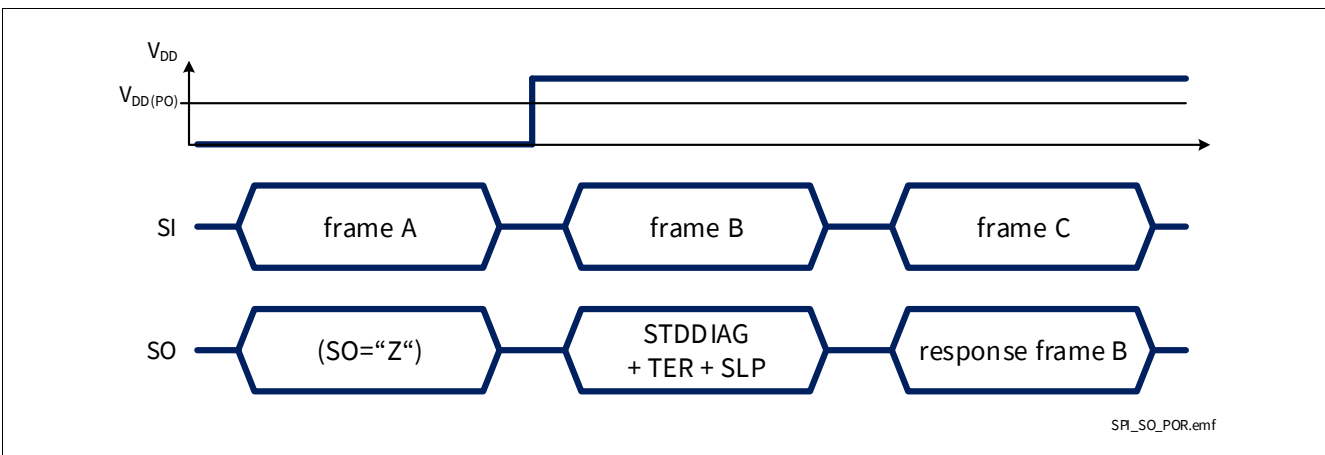

Figure 44 SPI response after coming out of Power-On reset at V_{DD}
- When BTS71033-6ESA digital supply comes out of Power-On reset condition, as shown in Figure 44